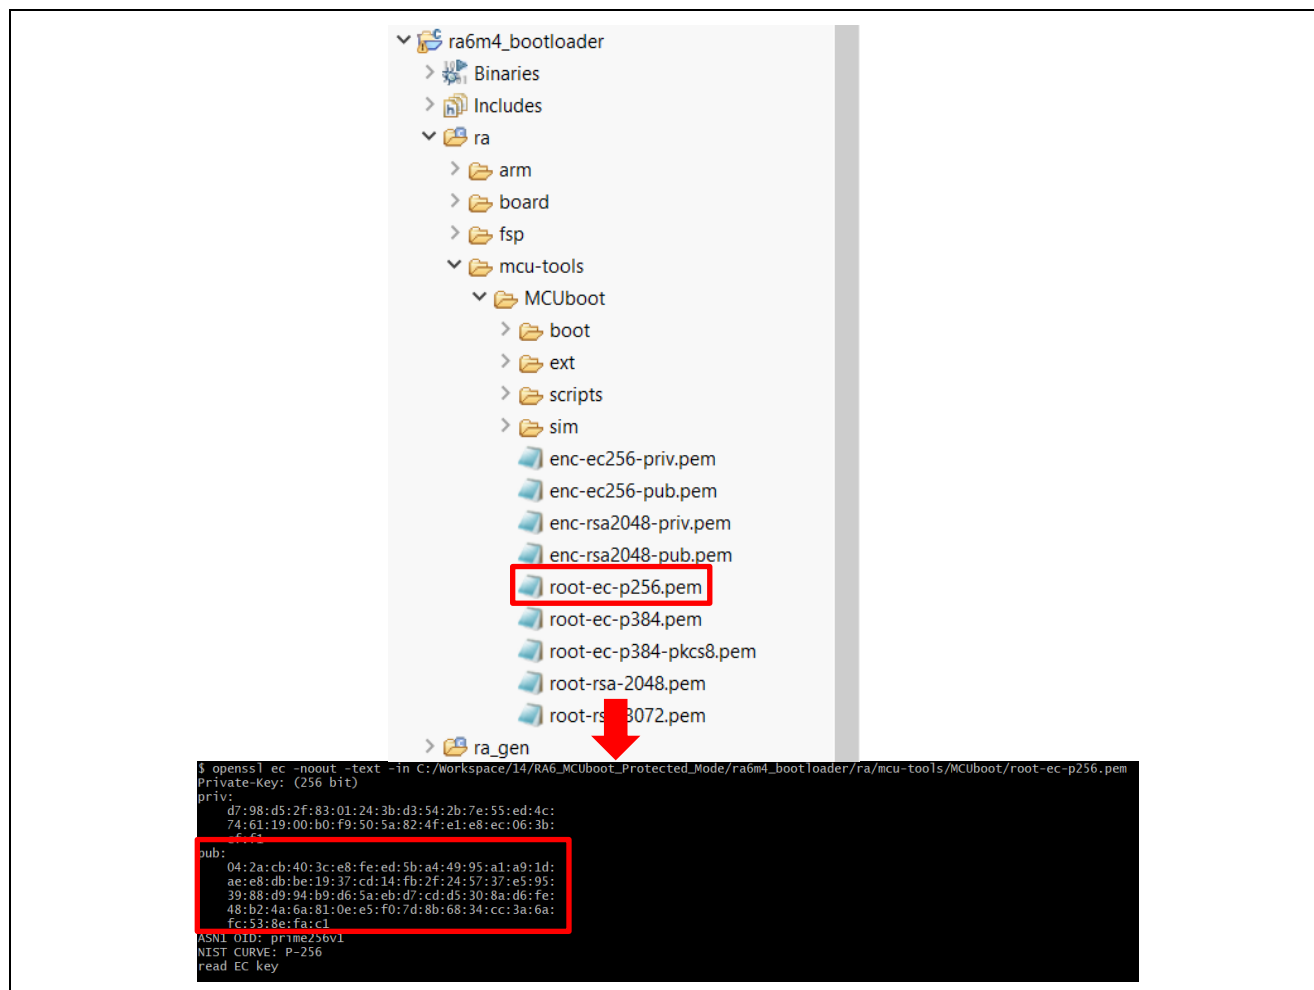

Figure 30. Print out public key data
In this section, we will use the ECC public key data in Figure 30 as an example of preparing an ECC public key for secure key injection.
- `2acb403ce8feed5ba44995a1a91daee8dbbe1937cd14fb2f245737e5953988d994b9d65aebd7cdd5308ad6fe48b24a6a810ee5f07d8b6834cc3a6afc538efac1` is the public key data from Figure 30.